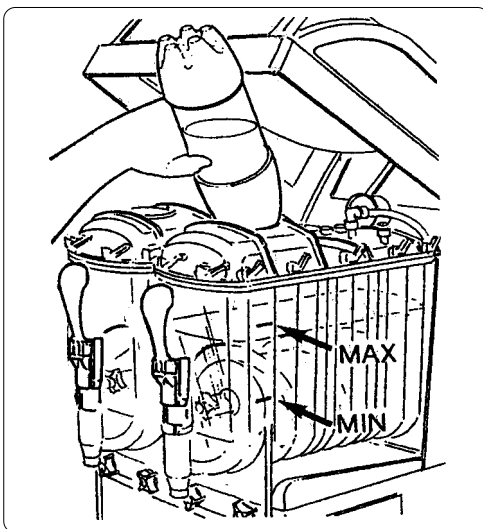

Fig. 8
- Pour the fizzy drink into the tank until it reaches the maximum level (8 litres). Each tank has a MINIMUM and a MAXIMUM level mark (see fig. 8).